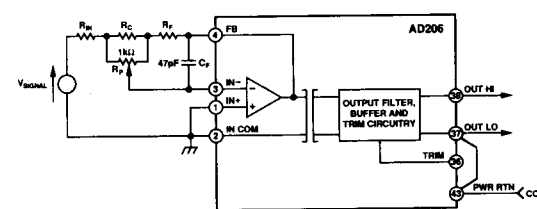

Figure 16. Input Gain Adjustment Circuit for the Inverting Mode of Operation
**Input Gain Adjustments for the Inverting Mode of Operation.** Figure 16 shows the suggested gain adjustment circuit. In this circuit, the gain adjustment is made in the feedback loop using potentiometer  $R_P$ . The adjustments are effective for all gains in the 1 to 10 range.